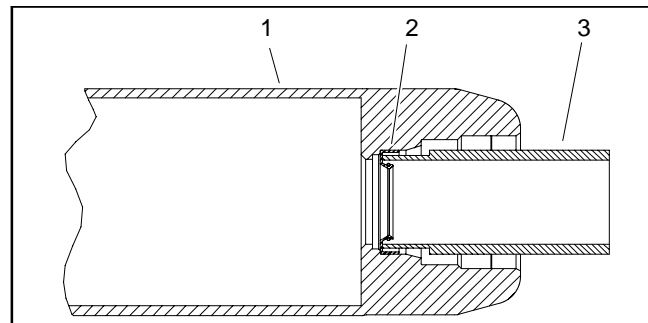

Figure 12
1. Install inner seals into roller tube making sure that seal lip (and garter spring) faces end of tube. Use inner seal tool (see Special Tools) and soft face hammer to fully seat seals against roller shoulder (Fig. 12). Apply a small amount of grease around the lip of both inner seals after installation.